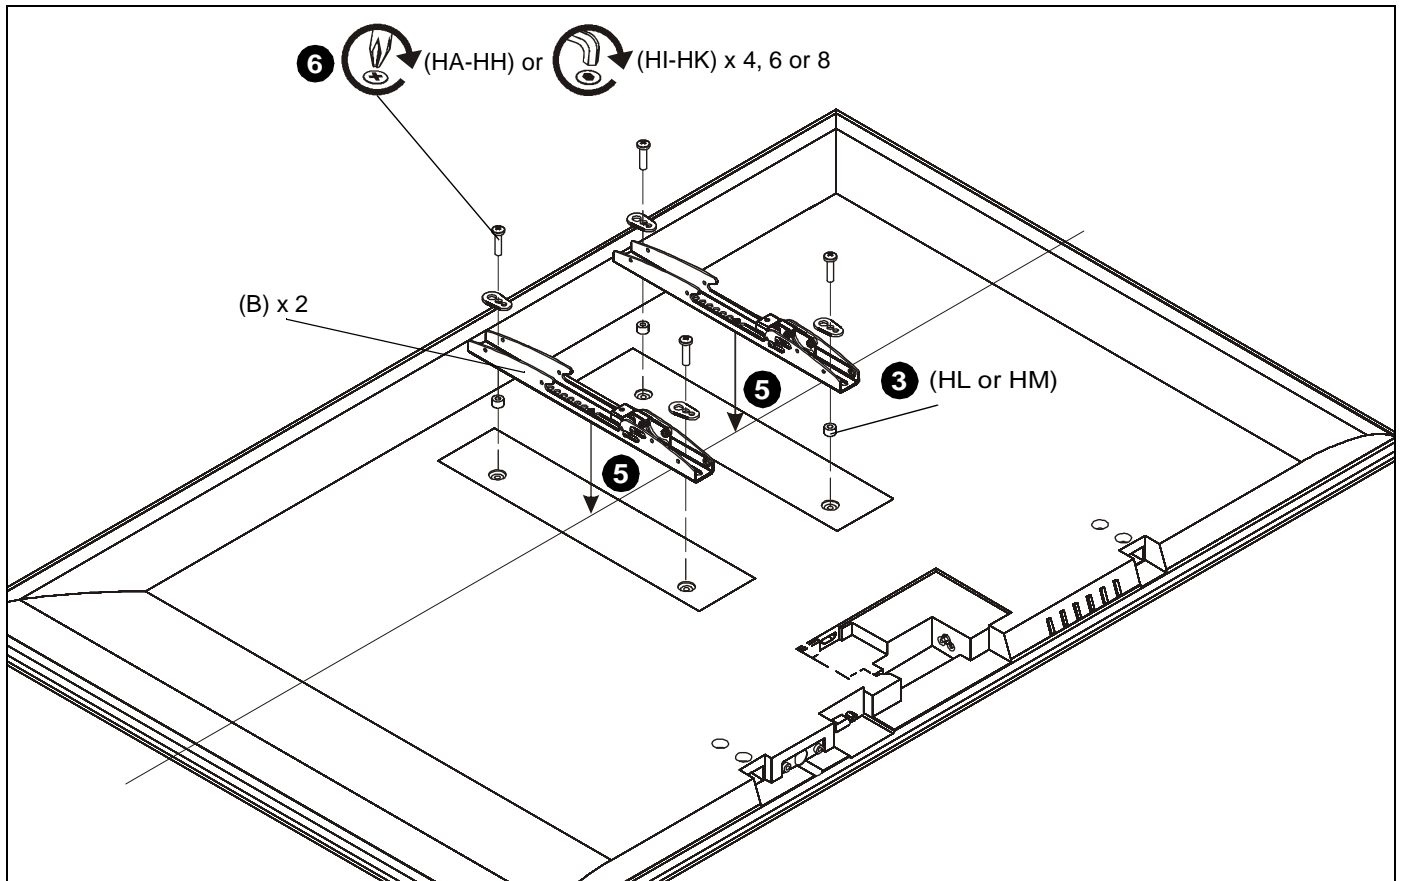

Figure 8
2. Select screw *diameter* by examining hardware (HA-HK) (4mm, 5mm, 6mm or 8mm) and comparing with mounting holes on display. (See Figure 8)
3. Select spacers: (See Figure 8)
- If mounting holes are not recessed and both uprights (B) can lay flat against display, then no spacers are required.
- If mounting holes are recessed, or if protrusions prevent uprights (B) from laying flat, then spacers (HL or HM) must be used.
4. Select screw *length*: (See Figure 8)
- Using your hand, insert **SHORTEST** length screw of selected diameter (HA, HD, HG or HI) through universal washer (HN), uprights (B), selected spacer (HL or HM), into display mounting hole. Do NOT thread screw into hole at this time.
- NOTE:** Universal washers (HN) are not needed if using M8 button head cap screws (HI, HJ or HK).
5. Place uprights (B) on display, ensuring: (See Figure 8)
- Center of uprights (B) are as close to the center of the back of display as possible after being installed. Center of bracket is indicated by the diamond-shaped hole.
6. Use selected screws and spacers to install two interface uprights (B) to back of display. (See Figure 8)